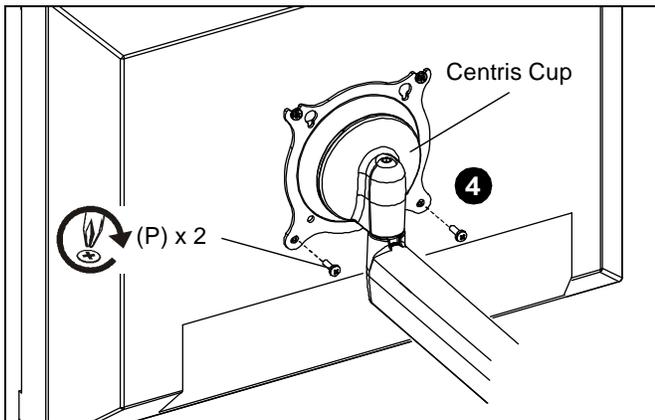

Figure 7
4. Using Phillips screwdriver, install two M4x12mm Phillips machine screws (P) through the *lower* mounting holes in Centris cup into the display. (See Figure 7)
5. Tighten all screws (P). Do not overtighten! (See Figure 7)